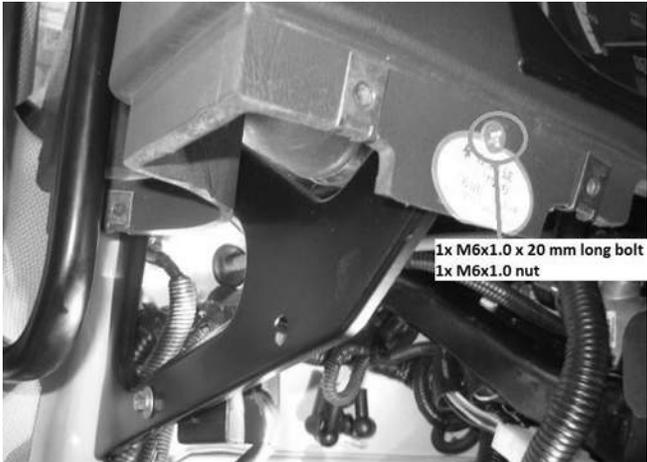

Figure 18-1
1. Reinstall the bolt/nut assembly on both LH and RH sides of the instrument panel (see Figure 18-1).